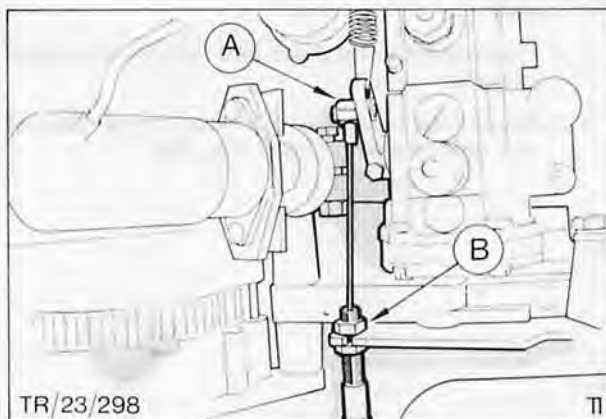

Fig. 92. Stop control cable
5. Disconnect inner cable from pump and outer cable from pump bracket, Fig. 92.